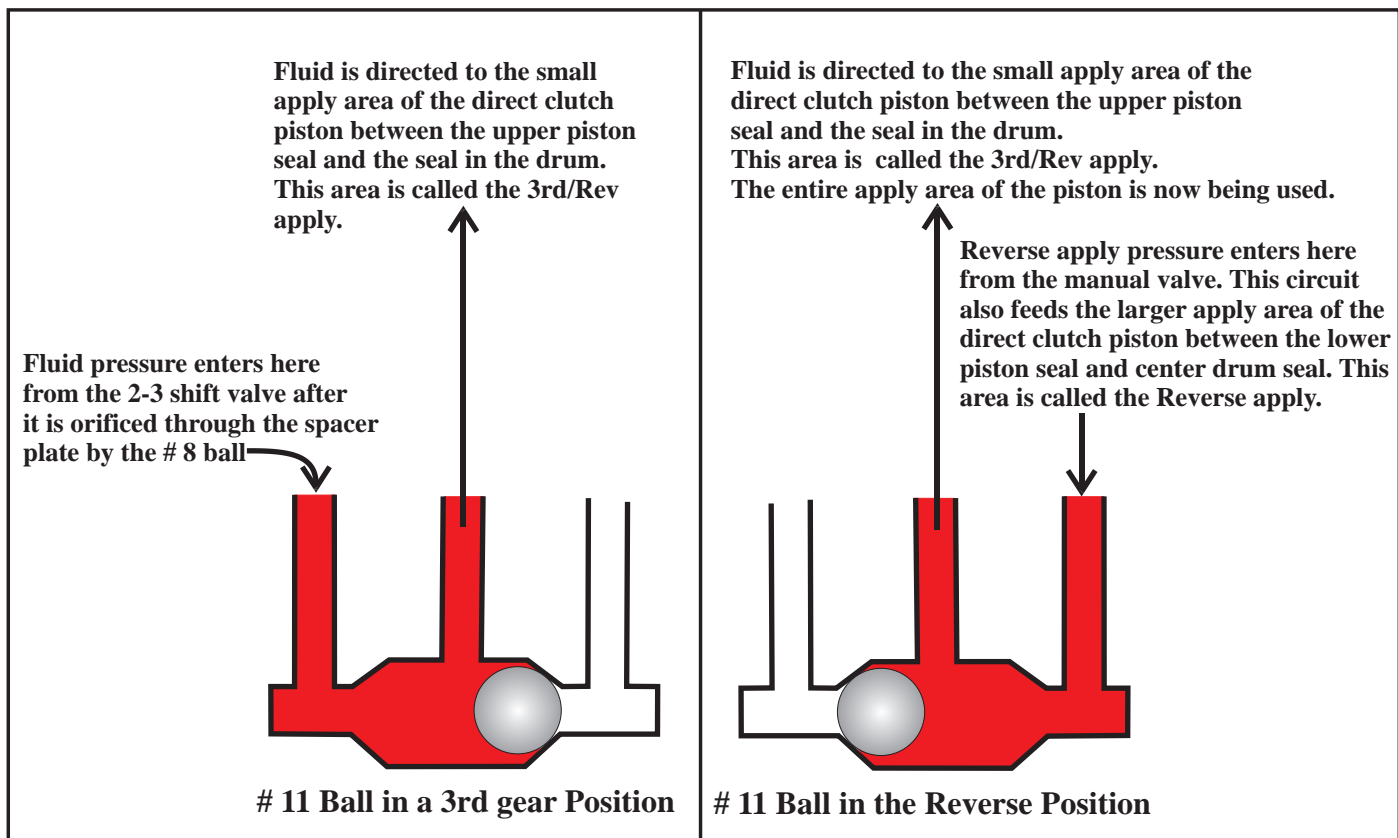

Figure 5
*Refer to Figure 5 for the Identification and location of the Shift Solenoids, Lock-up Solenoid and the Timing Solenoid*